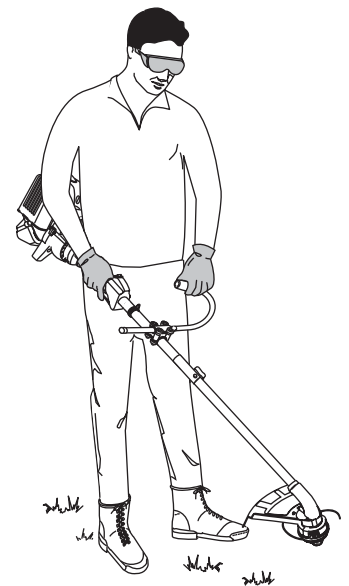

Fig. 14
6. While holding the unit in the operating position (Fig. 14), position the J-handle to the location that provides you the best grip.
Before operating the unit, stand in the operating position (Fig. 14). Check for the following: